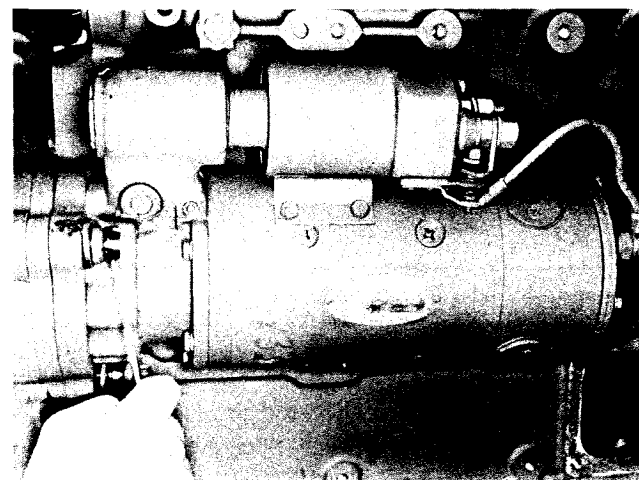

Fig. 0-3, (N10074) Removing electric cranking motor
2. Remove cap screws and lockwashers holding cranking motor and spacer to flywheel housing. Fig. 0-3.